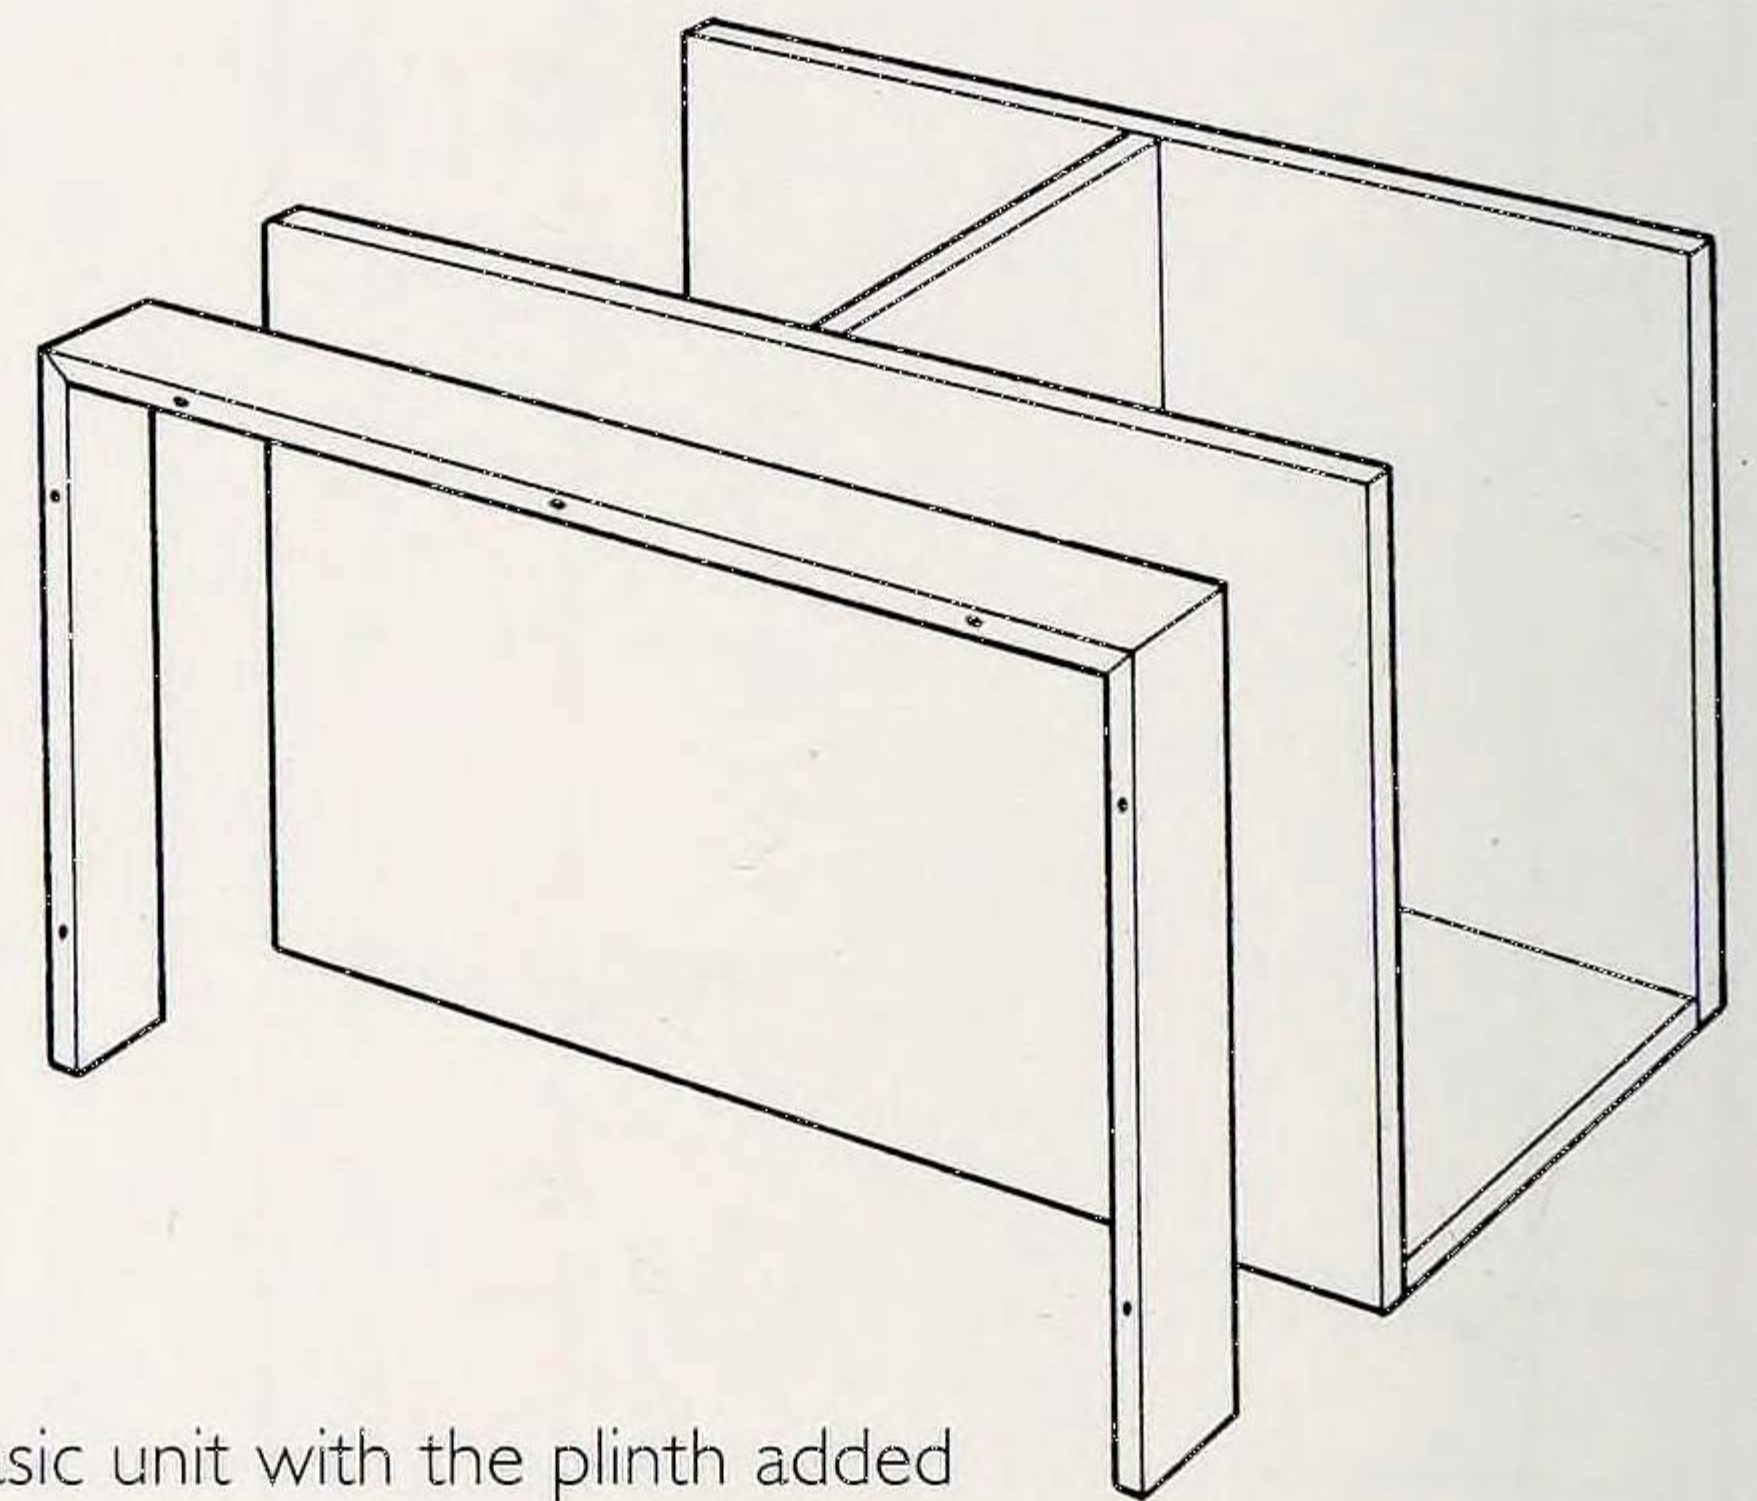

Fig. 2 Basic unit with the plinth added
2. Add the plinth, which can be glued and screwed from underneath as shown (Fig. 2).